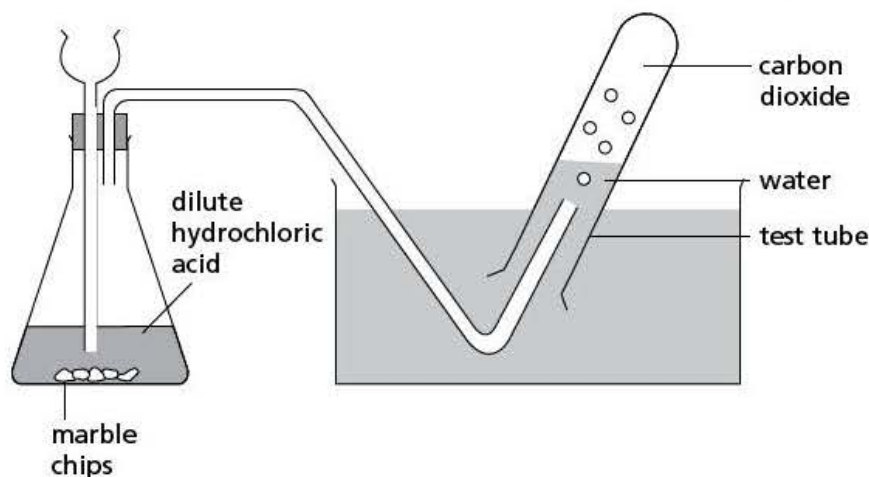

Figure 1
- 2 Set up the apparatus as shown in Figure 1.
- 3 Carefully pour a little dilute hydrochloric acid into the conical flask until the level of the acid is above the bottom of the thistle funnel as shown in Figure 1.